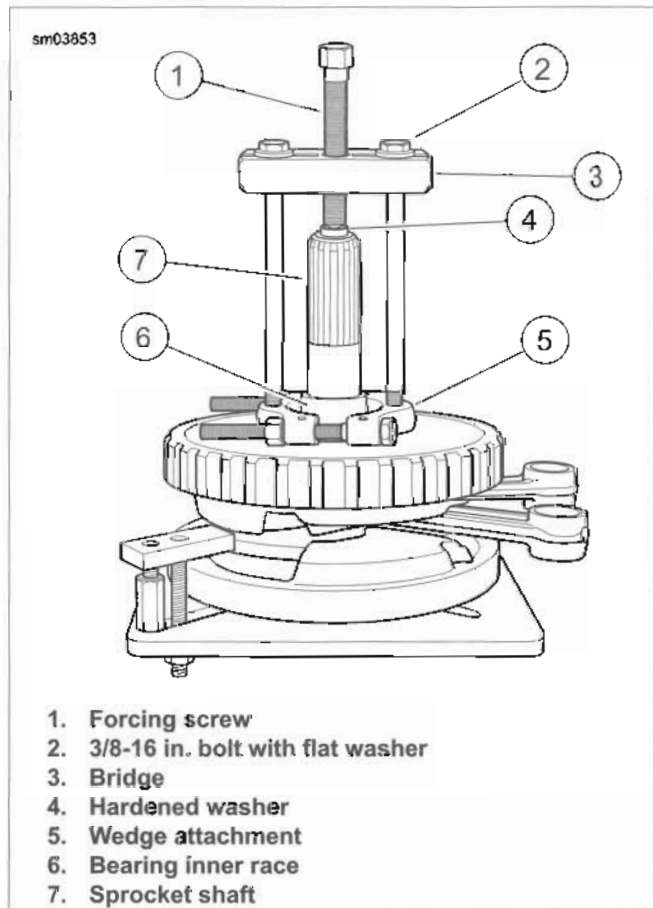

Figure 3-139. Remove Inner Race from Sprocket Shaft
- See Figure 3-139. Verify that the tool assembly is square, so that the bearing inner race is not cocked during removal.